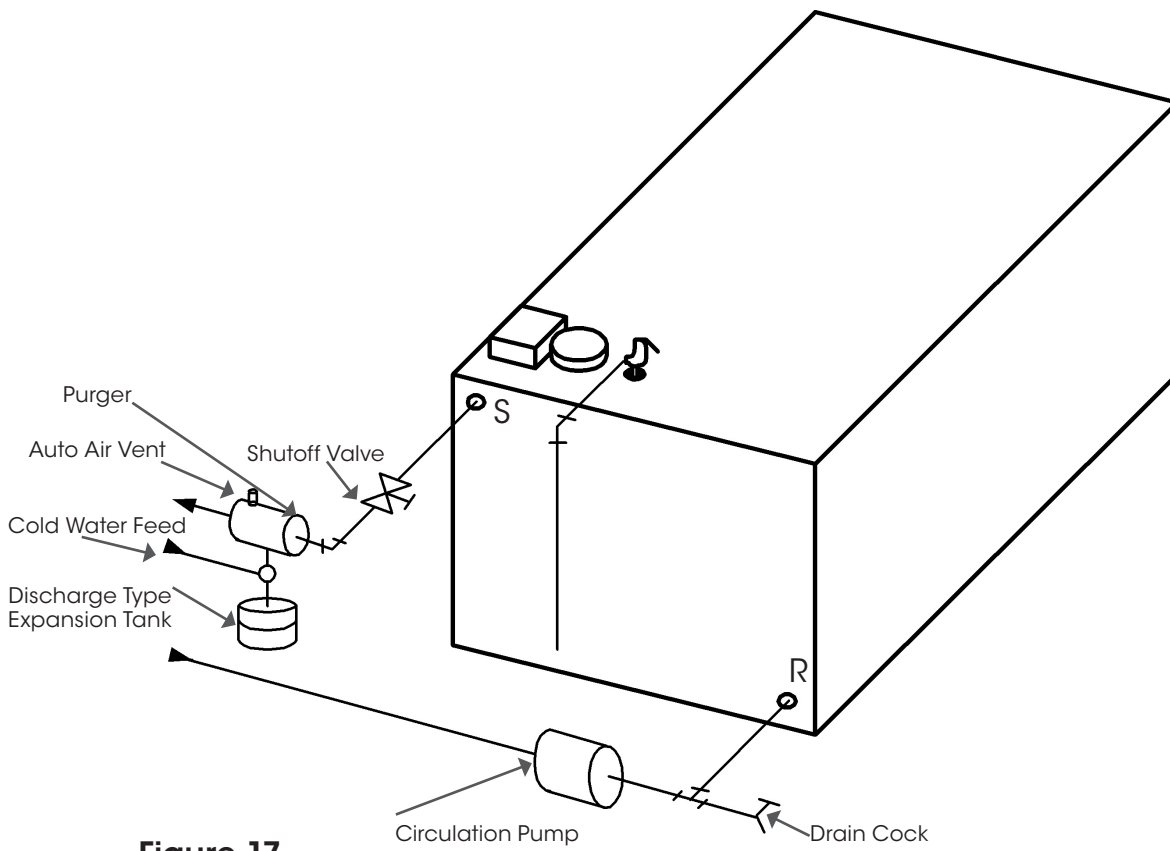

Figure 17
- Piping connections with diaphragm expansion tank— See Figure 17. The cold water feed to the pressure reducing fill valve may be piped with 1/2 inch pipe.